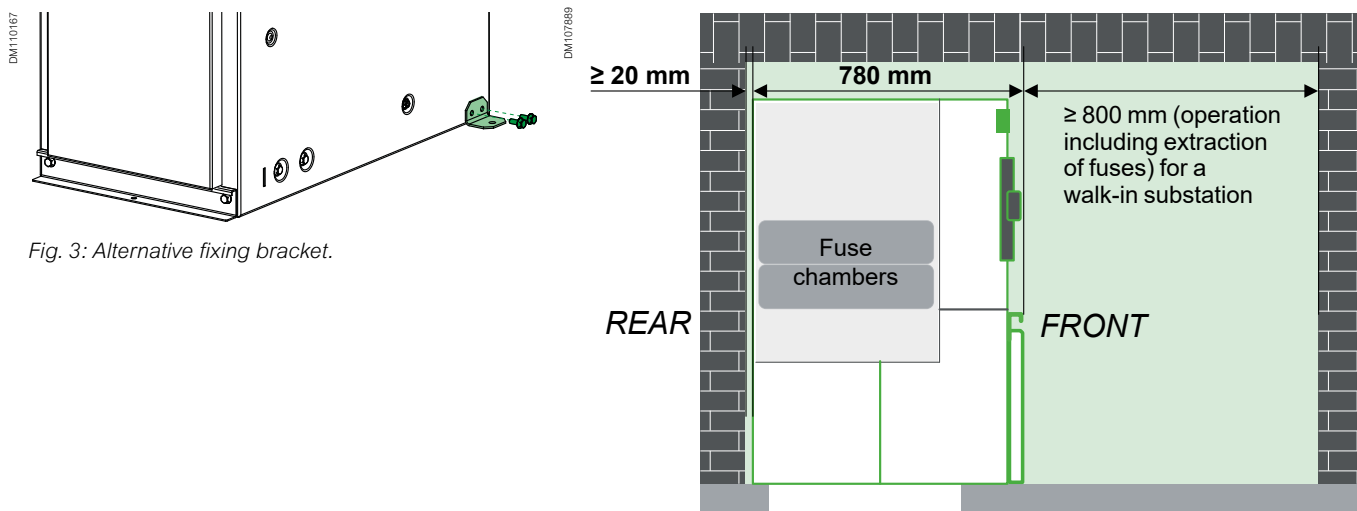

Fig. 3: Alternative fixing bracket.
- Alternative fixing bracket at 57 mm from the rear (Fig. 3)